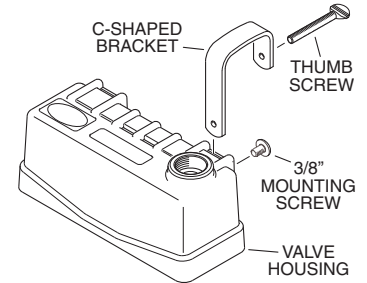

Figure 4
- Slide both C-shaped brackets into the valve housing as shown (see Figure 4).